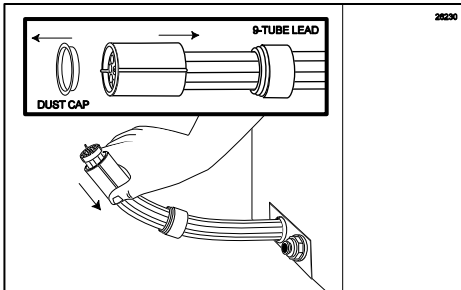

Figure 117
1. Locate the 9-Tube Lead at the back of the cabinet. Remove the dust cap and slide the coupler casing toward the unit to expose the lead line coupler. (See Figure 117.)